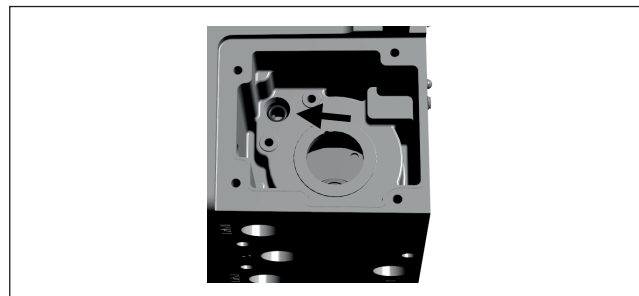

Fig. 81.
- Pull out the prestage carefully. It is recommended to use pliers to grab the grooves on the sides of the prestage. Be careful not to touch the moving parts of the prestage. (Fig. 81)